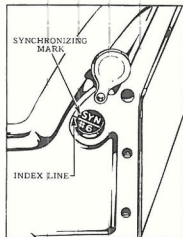

FIG. 9
9. No. 2 breaker arm (adjustable) should now be timed as follows: Turn flywheel over *one-quarter revolution* until synchronizing mark on flywheel coincides with index line, Figs. 9 and 10. This is the position to fire No. 6 cylinder.